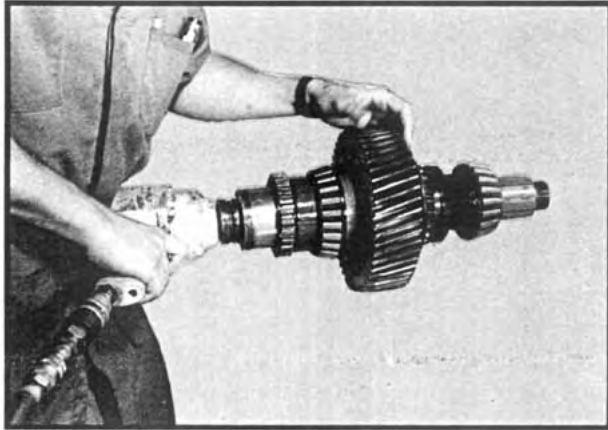

Fig 25
- Remove the clutch gear retaining locknut with an impact wrench. See Figure 25. Slide the clutch gear off the shaft.